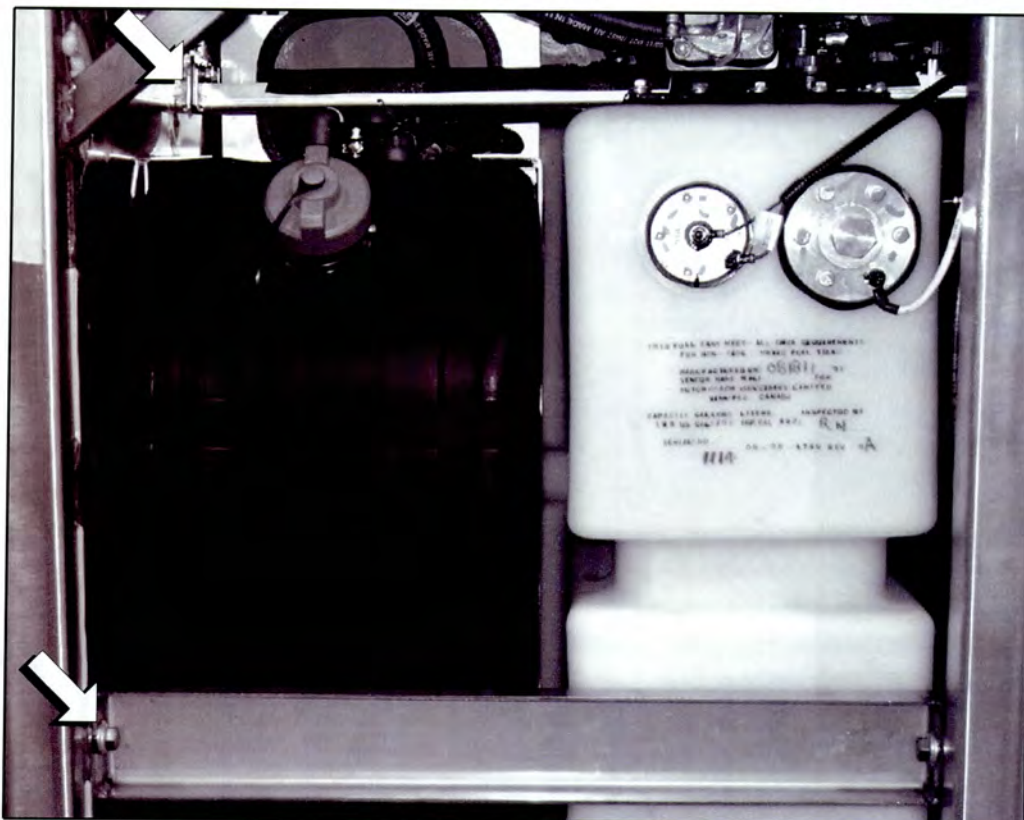

Figure 4.
6. Locate the two (2) fuel tank retention brackets (upper and front) shown in Figure 4. Remove and retain the mounting hardware to release the retention brackets from the coach frame. Place retention brackets and mounting hardware aside to be re-installed at a later step in this procedure. If required, remove and retain the rubber panel bumper mounted on the side compartment wall next to the DEF tank.